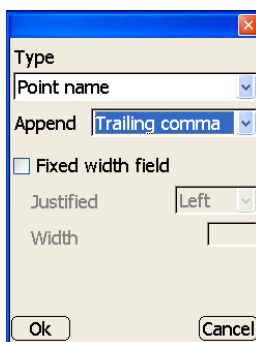

Figure 3-16. Enter Line Item Information
- Add – on the *Line items* tab, press **Add** to add a line item and its respective information (Figure 3-16 on page 3-11), then press **Ok** to save the information. Repeat this process for each line item.